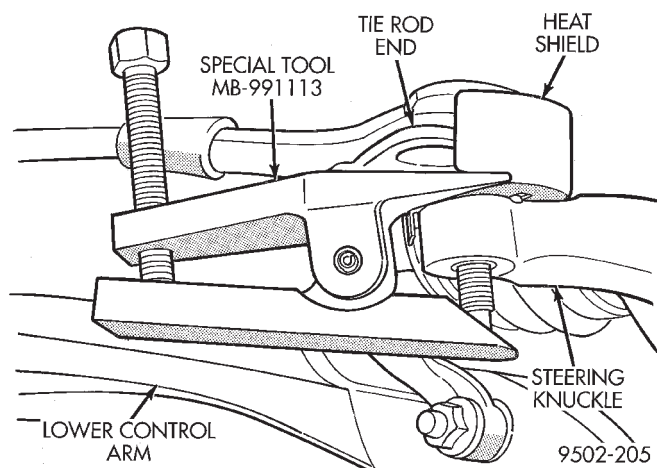

Fig. 8 Tie Rod End Removal from SteeringKnuckle
(10) Remove the tie rod end stud from steering knuckle arm, using remover, Special Tool MB-991113 (Fig. 8).